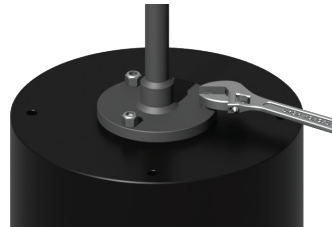

Figure 21
3.4.2) Thread cutter onto saw mandrel completely, then back off until the 3 equally spaced holes in the cutter align with the threaded holes of the saw mandrel. Secure cutter with three 1/2"-13 screws and lock nuts (see Figure 21).